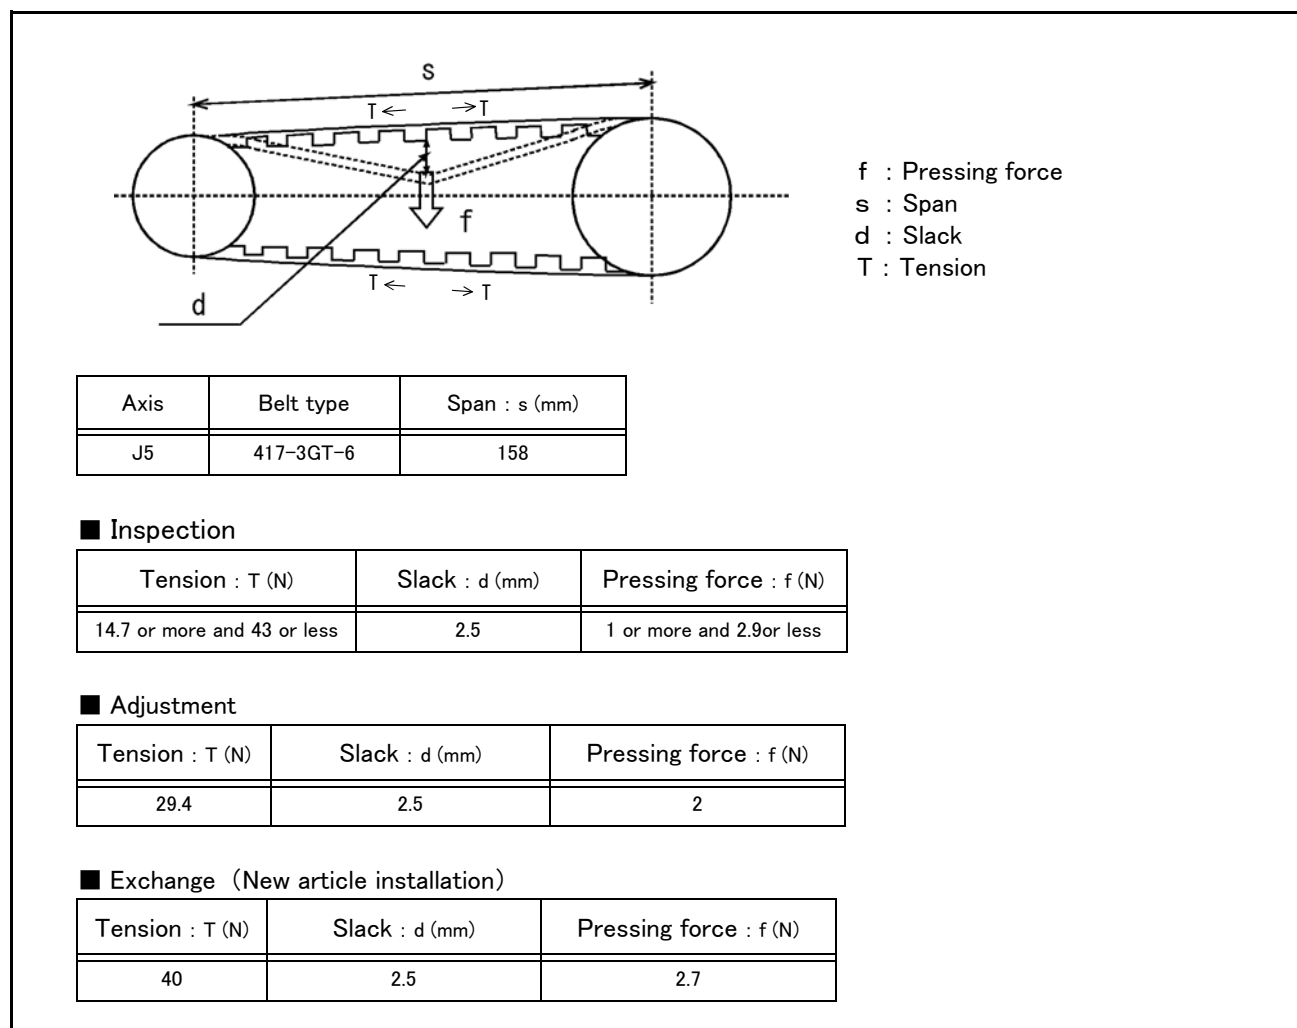

Fig.5-12 : Belt tension
- 3) Visually confirm that the symptoms indicated in "(1) Timing belt replacement period" have not occurred with the timing belt.
- 4) Confirm that the belt tension is adjusted to slacken approx. 2.5mm when the center of the belt is lightly pressed with a finger (approx. 2N) as shown in "Fig.5-12 : Belt tension".
The timing belt can satisfactorily convey the drive and keep a durable force only when it has an adequate tension. The belt tension should not be too tight or too loose. Instead, it should be adjusted to a degree that elasticity is felt when the belt is pressed with the thumb. If the belt tension is too weak, the belt loosening side will vibrate. On the other hand, if the belt tension is too strong, a sharp sound will be heard and the belt tension side will vibrate. The detailed adjustment (tension) is shown in Fig. 5-12.